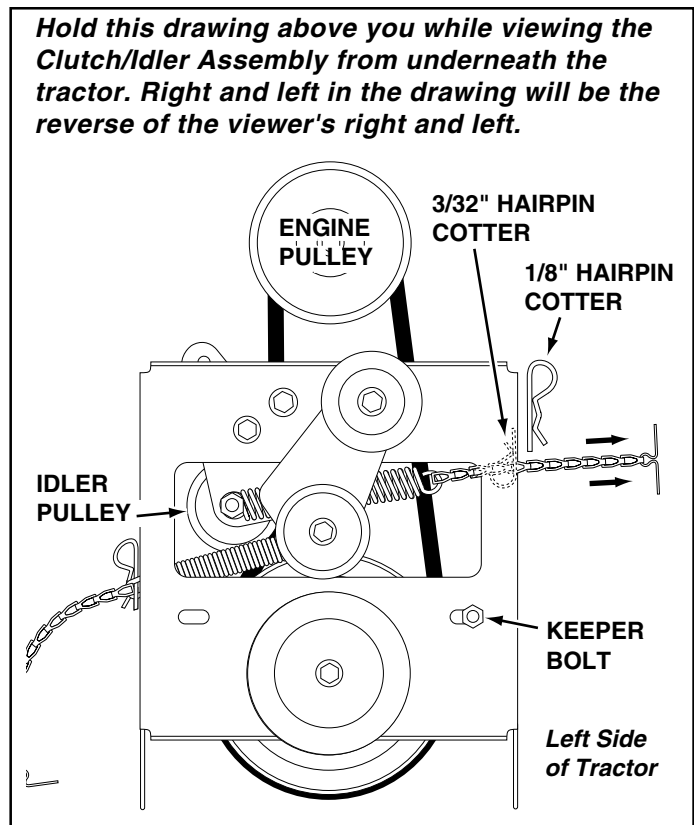

FIGURE 14 VIEWED FROM UNDERNEATH
- Assemble the short "V" belt onto the engine pulley and then onto the large pulley on the clutch/idler assembly. The belt must be placed to the inside of the idler pulley and the keeper bolt. See figure 14. **IMPORTANT: Do Not** assemble the "V" belt around the outside of the keeper bolt.
- Place tension on the belt by pulling the left side tensioning chain out as far as the 3/32" hairpin cotter will allow. Secure the chain with a 1/8" hairpin cotter. See figure 14.